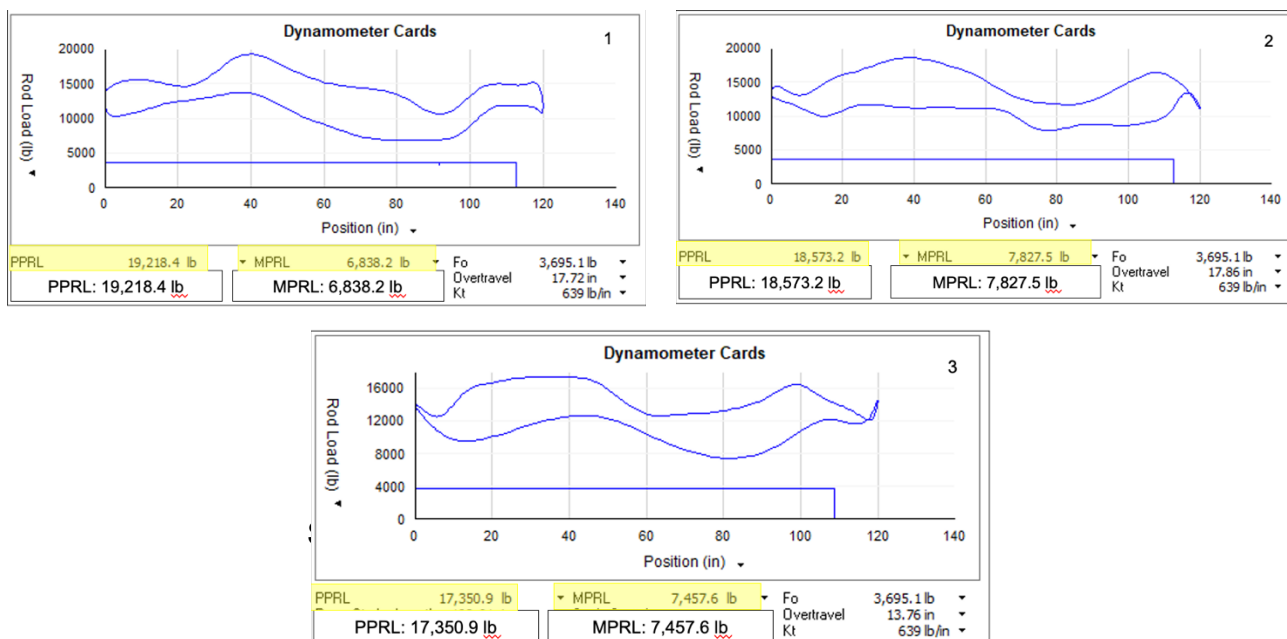

Figure 3 - Dynamometer cards showing differing rod loads when running at different speeds
Keeping weight on the bottom of the rod string is one way to maintain the life of both the tubing and rod string but there are others as well. The cyclic nature of rod pumps creates a peak load (PL) on the upstroke and a minimum load (ML) on the downstroke. The larger the difference between these two values, the quicker the rod string wears out so the higher you can get the ML/PL ratio, the longer the operating life you can get out of your rod string (Anderson et al. 1997). Simply slowing the unit down achieves this by decreasing load on the upstroke and allowing more time for the weight section to do its job pulling the rod string down in tension, increasing the load on the downstroke. This is demonstrated in **Figure 3** and **Table 2** with three dynamometer cards created in QROD showing a pump running at different speeds. These results were achieved using a conventional pumping unit with a 120-inch stroke length. The slower the speed, the higher the ML/PL ratio.